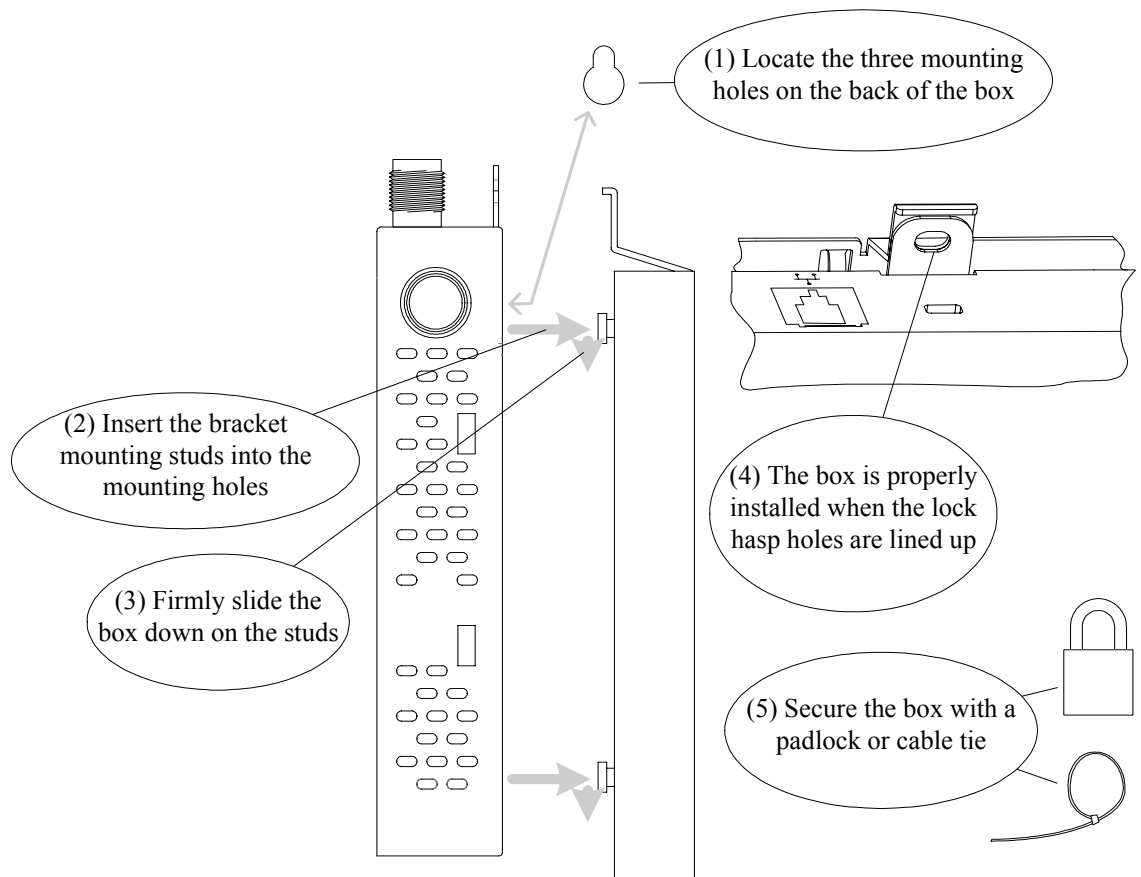
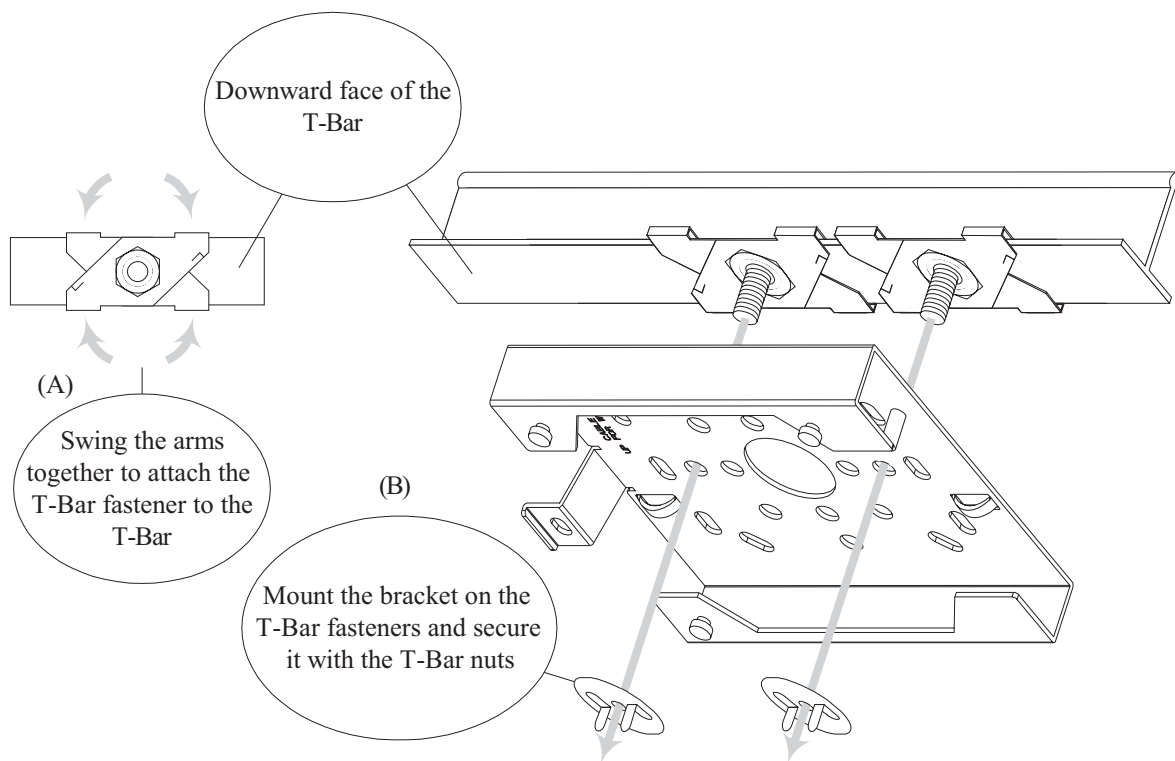
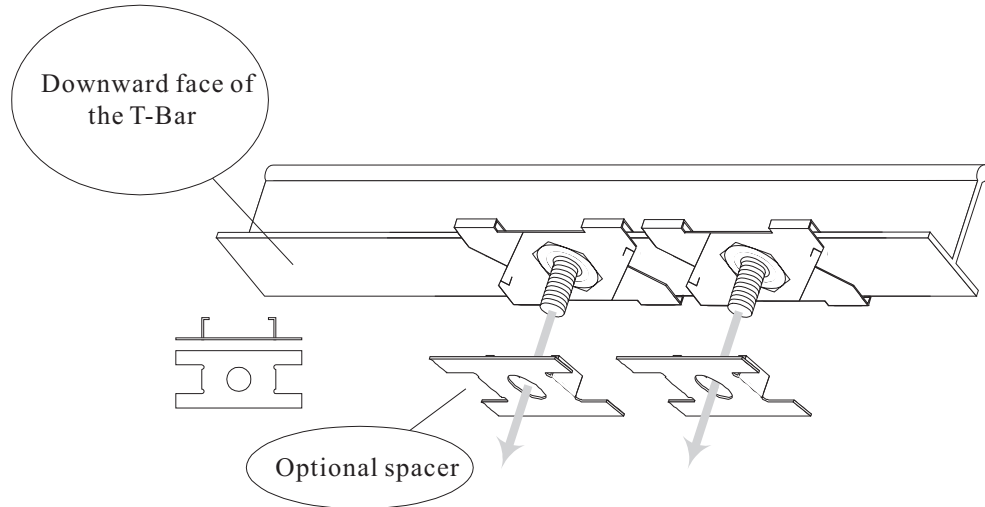

Figure 5: Mounting The Wireless Port On The Universal Mounting Bracket
Figure 6: Installation On A Hanging Ceiling
Figure 7: Installation Of Optional Spacer
- 2 Mount the Altitude 300-2™ on the universal mounting bracket. The Altitude 300-2™ has three slotted mounting holes on the back of the unit. The mounting studs on the universal mounting bracket fit into the slotted mounting holes. The unit slides all the way forward into these holes. The lock hasp hole on the Altitude 300-2™ should line up with the lock hasp hole on the universal mounting bracket when the unit is slid all the way forward, see Figure 5: Mounting The Wireless Port On The Universal Mounting Bracket on page 19.
- 3 Lock and secure the Altitude 300-2™. The Altitude 300-2™ and the universal mounting bracket are designed to use a Master Lock 120T or similarly sized padlock to secure the wireless port from theft of from coming off the bracket, see Figure 5: Mounting The Wireless Port On The Universal Mounting Bracket on on page 19. Wall and ceiling installations skip step 4.
The T-Bar fasteners included with the wireless port are designed to connect to a range of hanging ceiling T-Bar sizes. Following the steps in Figure 6, spread the T-Bar fastener apart, place it on the T-Bar and squeeze it together until it is firmly seated on the T-Bar. With the two T-Bar fasteners in place and properly spaced to match the brackets T-Bar fastener holes, determine if spacers are needed. The T-Bar fastener spacers are designed for hanging ceilings where the ceiling tiles' bottom surface is below the T-Bar. If this is the case, install the spacer as show in the diagram. The spacer allows the universal mounting bracket to sit below the bottom surface of the ceiling tile.
The universal mounting bracket has mounting holes that allow it to be installed inline with the T-Bar as shown in Figure 6 or at right angles to the T-Bar.
Some hanging ceilings have tiles with bottom surfaces that hang below the bottom of the T-Bar. For these ceilings spacers are provided. The spacers go between the T-Bar fasteners and the universal mounting bracket as shown in Figure 7.
The Altitude 300-2™ may be installed underneath a hard ceiling where wall anchors are used to mount the bracket. Select the orientation for the bracket remembering that that integrated antennas are on the side and to the back of the Altitude 300-2i™. Use the bracket as a template to mark the holes on the ceiling. For each of the four plastic anchors supplied with the unit, drill 4.8 mm (3/16") pilot holes, 24.5 mm (1") deep. If wall anchors are not being used drill 3.2 mm (1/8") holes, 1 inch (25.4 mm) deep. Install the bracket using the screws from the kit. The Altitude 300-2™ is designed to slip into the mounting slots on the bracket and slide all the way to the front, see Figure 5: Mounting The Wireless Port On The Universal Mounting Bracket on page 19. The unit should then be secured with either a padlock (not supplied) or a cable tie (supplied).
The Altitude 300-2™ may be suspended from the T-Bars of a hanging ceiling. The mounting kit contains two T-Bar fasteners that can be adjusted for a variety of T-Bar widths. There are a number of round holes on the bracket that can be used for the T-Bar fasteners; use two that are convenient for the required orientation on the ceiling. The bracket is oriented on the T-Bar with so that the antennas face the desired direction. Use the bracket to lightly mark where the T-Bar fasteners should be placed. Install the two T-Bar fasteners on the T-Bar, see Figure 6: Installation On A Hanging Ceiling on page 20. Some ceilings have ceiling tiles that hang down below the bottom of the T-Bar. Spacers are provided with the kit for these types of tiles. The spacers go between the T-Bar fasteners and the bracket with the spacer's face against the bracket, see Figure 7: Installation Of Optional Spacer on page 21. Mount the bracket and make sure fasteners are tight and the bracket is secure. The Altitude 300-2™ is now slipped into the bracket's mounting slots and slid all the way to the back, see Figure 5: Mounting The Wireless Port On The Universal Mounting Bracket on page 19. The unit should then be secured with either a padlock (not supplied) or a cable tie (supplied). The installer may now follow the standard instructions for connecting the Ethernet cable, antenna shrouds for integrated antennas, and the plastic cover.
The Altitude 300-2™ can be mounted on a vertical surface using the universal mounting bracket supplied. The vertical position should be with the Ethernet cable and lock hasp pointing up. Select the location for the unit and use the bracket as a template to mark the holes in the ceiling. For each of the four plastic anchors supplied with the unit, drill 4.8 mm (3/16") pilot holes, 24.5 mm (1") deep. If wall anchors are not being used drill 3.2 mm (1/8") holes, 1 inch (25.4 mm) deep. Install the bracket using the screws from the kit. The Altitude 300-2™ is designed to slip into the mounting slots on the bracket and slide all the way down, see Figure 5: Mounting The Wireless Port On The Universal Mounting Bracket on page 19. The unit should then be secured with either a padlock or a cable tie. The installer may now follow the standard instructions for connecting the Ethernet cable, antenna shrouds for integrated antennas, and the plastic cover.